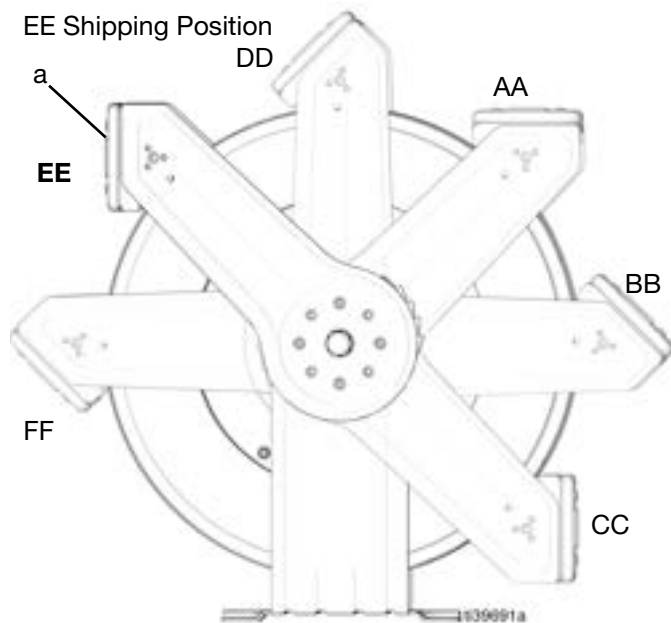

FIG. 4
1. Determine if the position of the roller guide arm (a) (FIG. 4) is in the desired installation position.
The hose reel is factory-assembled and shipped with the roller guide arm (a) in the EE position (FIG. 4).